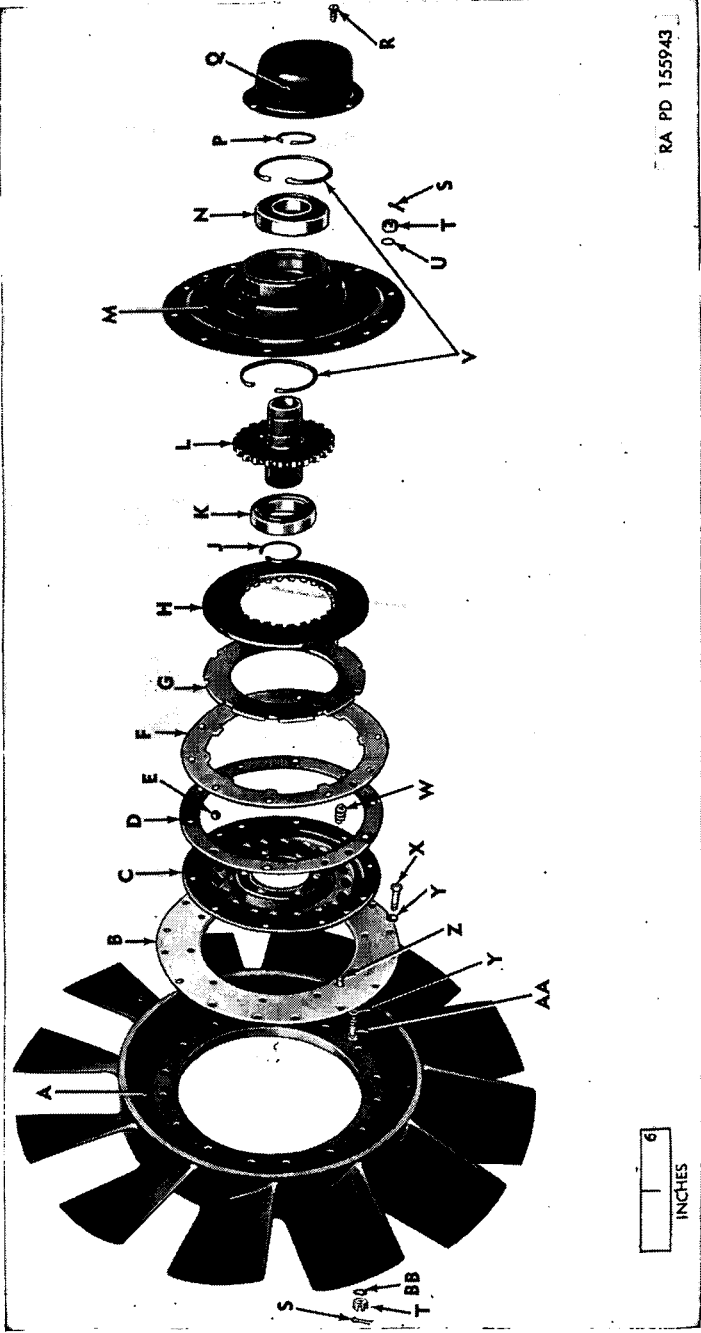

Figure 73. Cooling fan and fan clutch assembly—exploded view.
- (5) Parts should be checked to the limits specified in repair and rebuild standards (par. 157).
78. Assembly of Cooling Fan and Fan Clutch Assembly (fig. 73)
a. Insert outer ball bearing (N) in the fan outer (upper) clutch housing (M), and secure with snap rings on each side of the bearing.
b. Position inner (lower) fan clutch housing (C) housing spacer (D), and clutch driven disk (F) over the clutch-to-rotor adapter dowel pins (Z). Install 15 balls and 3 springs in their recesses in the fan clutch inner housing (lower).
c. Lay clutch pressure plate (G) on the clutch springs (W) with its serrations alined to mesh with those of the clutch driven disk (F). Lay clutch drive disk (H) on the clutch pressure plate (G). Push clutch drive hub (L) through the inner ball bear-